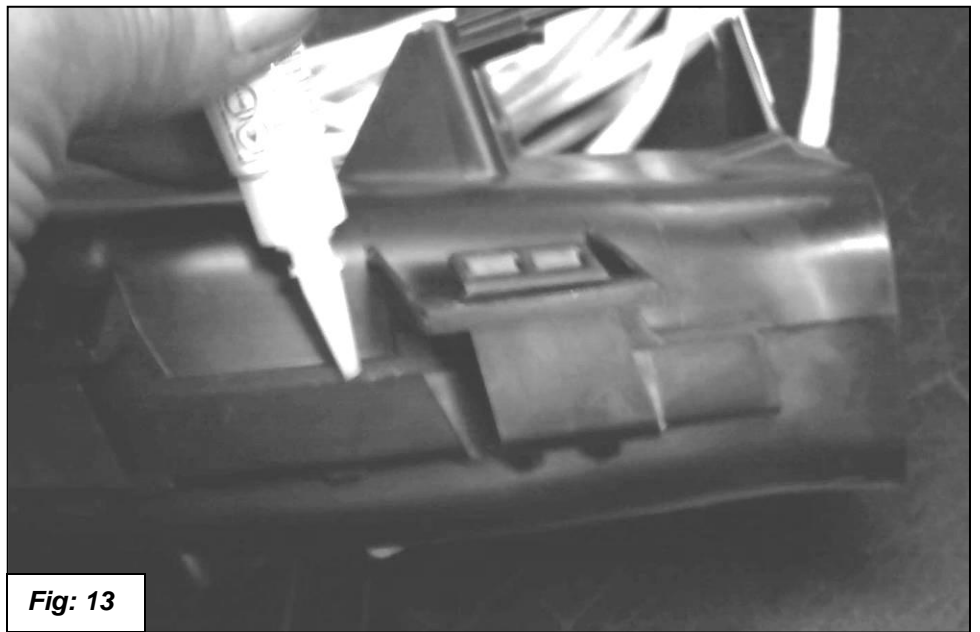

Fig: 13
19. Mark Cut and deburr the brake duct the brake duct as shown in figures 13, 14, and 15.